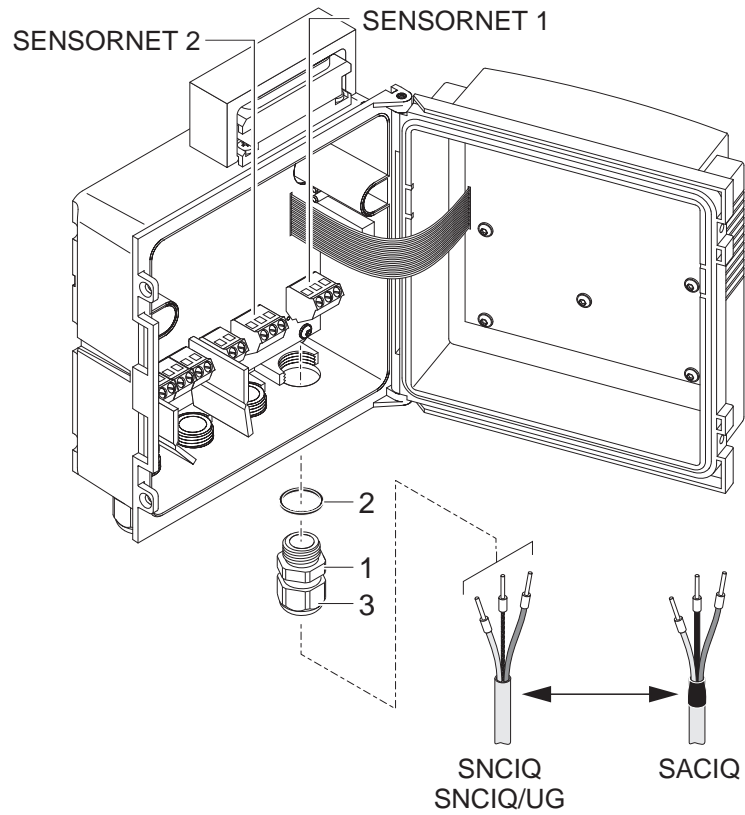

Fig. 3-12 Connecting cables (example of Universal Transmitter)
3	Screw a cable gland (pos. 1 in Fig. 3-12) with the sealing ring (pos. 2) into the enclosure.
4	Loosen the coupling ring (pos. 3 in Fig. 3-12).
7	Tighten the coupling ring (pos. 3 in Fig. 3-12).